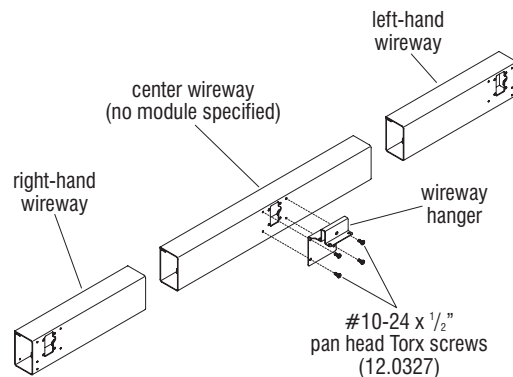

Figure 5
11. As specified on the space-planning layout, locate, stage and identify the three specific wireway extrusion types: "center wireway", "left-hand wireway" and "right-hand wireway", taking care to locate center wireway (no module) and center wireway (with module) at the specified locations (Figure 5).
12. Per the space-planning layout a "center wireway" will be specified as "with module", or "no module". In all locations where "no module" is specified to a center wireway, orient as illustrated and secure a wireway hanger over the opening using four #10-24 x 1/2" Torx screws. Torque screws to 25 in/lbs., taking care to not strip the material (Figure 5).